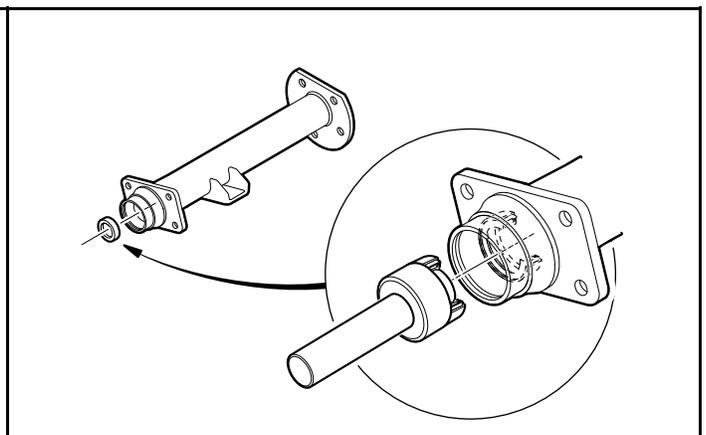

Figure 28-4 Axle Seal and Adapter Ring Installation
- 1.5. Place the oil seal and adapter ring assembly into the axle tube with the seal lip facing away from the bearing (**Figure 28-4, Page 28-2**). Use an axle seal tool (CCI P/N 1014162) and mallet to tap it in until it seats firmly in position. **See following CAUTION.**